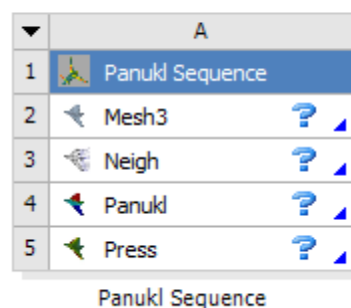

Figure 6 The extension in the *Project Schematic* area.
5. In Ansys Workbench drag *Panukl Sequence* from Toolbox tree Figure 4 to *Project Schematic* area Figure 6.
- a. Select the task *Mesh3* Figure 6 and in the properties window select *Input Geometry File \*.ms2* (marked yellow) Figure 8. In the window which will appear choose the input file and approve with *Finish* button (see next section how to assign parameters). Update the task Figure 9.